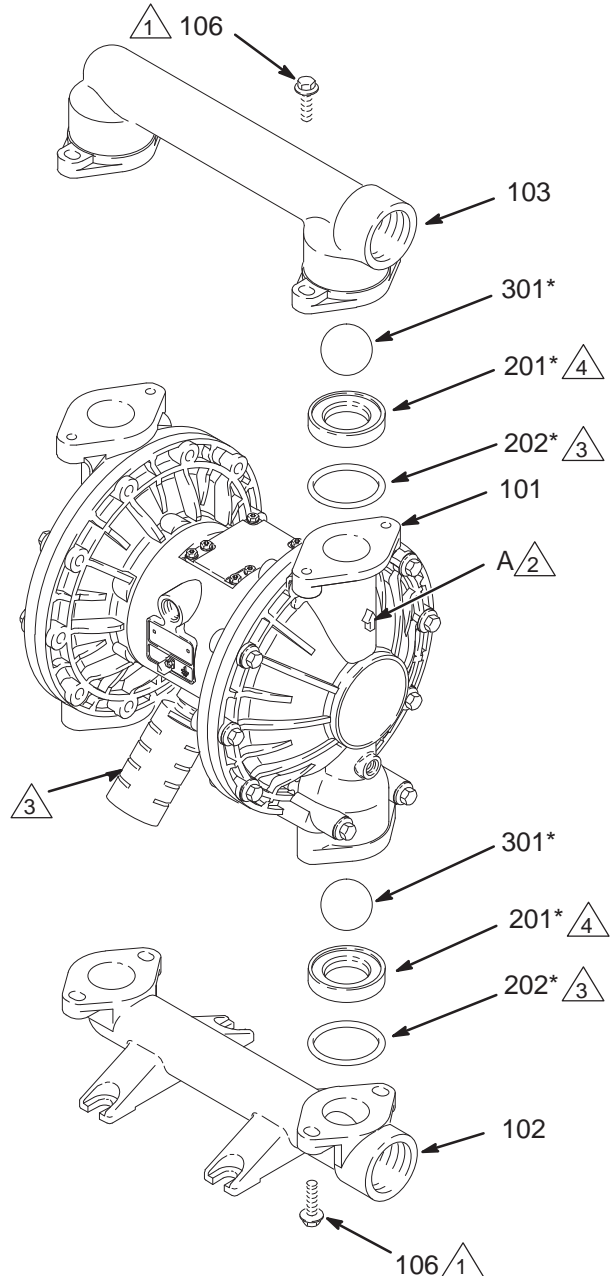

FIG. 10
3. Using a 13 mm socket wrench, remove the four bolts (106) holding the outlet manifold (103) to the fluid covers (101). See FIG. 10.
4. Remove the o-rings (202, *not used on some models*), seats (201), and balls (301) from the manifold.
5. Turn the pump over and remove the inlet manifold (102). Remove the o-rings (202, *not used on some models*), seats (201), and balls (301) from the fluid covers (101).
2. Reassemble in the reverse order, following all notes in FIG. 10. Be sure the ball checks are assembled **exactly** as shown. The arrows (A) on the fluid covers (101) **must** point toward the outlet manifold (103).
① Apply medium-strength (blue) thread locker to the threads. Torque to 120-150 in-lb (14-17 N•m). See **Torque Instructions**, page 29.
② Arrow (A) must point toward outlet manifold (103).
③ Not used on some models.
④ Beveled seating surface must face ball (301).